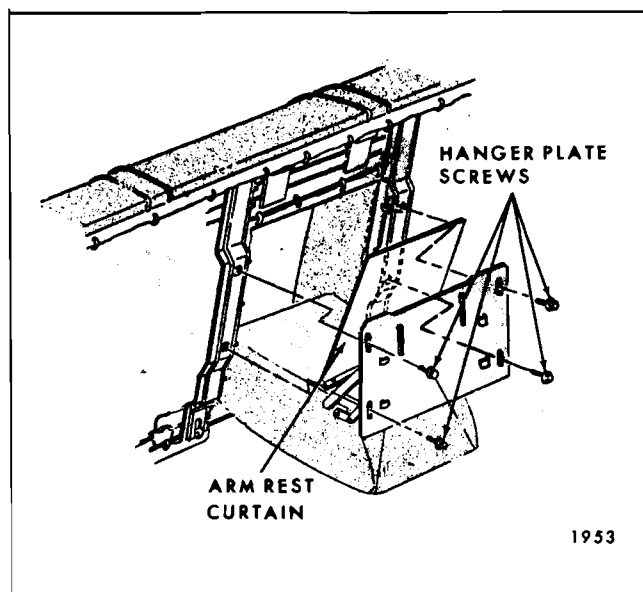

Fig. 15-61—Rear Seat Back Arm Rest and Hanger Plate
2. On back side of rear seat back, remove four screws securing arm rest hanger plate to seat back supports; then, carefully remove arm rest and hanger plate assembly from seat back (Fig. 15-61).